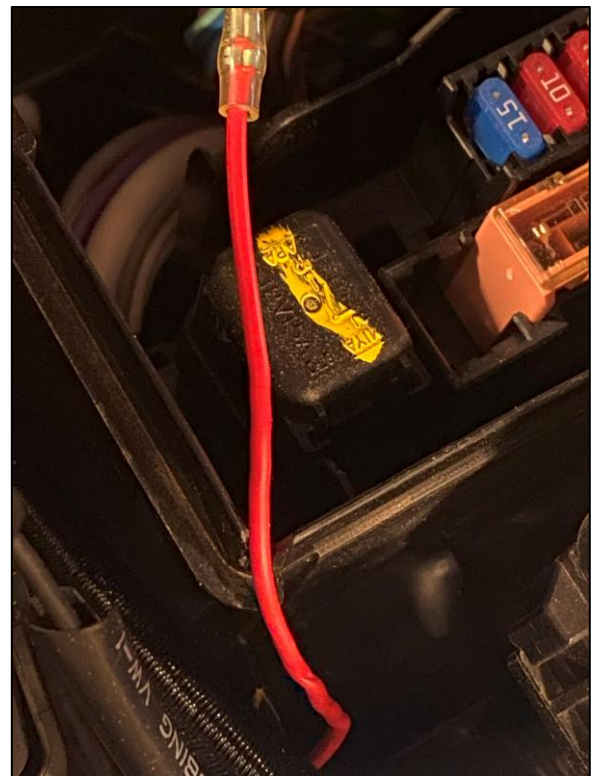

Figure 12
17. Notch the corner of the Fuse Box so the Wiring Harness can run into the Fuse Box without being pinched. *Figure 12.*